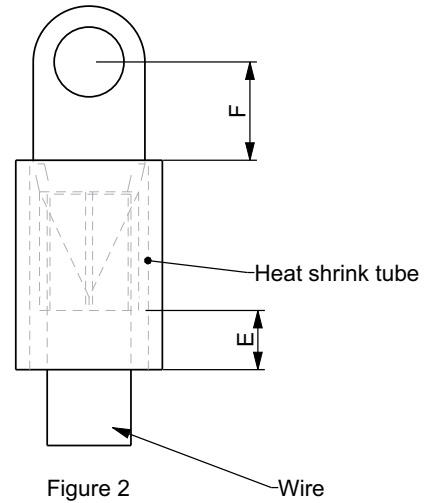

Figure 2
- Wire should be crimped into UL compliant ring lug before putting on the insulated heat shrink tube, which is UL and CSA compliant, 600 Vac voltage withstand, YUPU2, please refer to **Figure 2** for the specifications of the heat shrink tube.